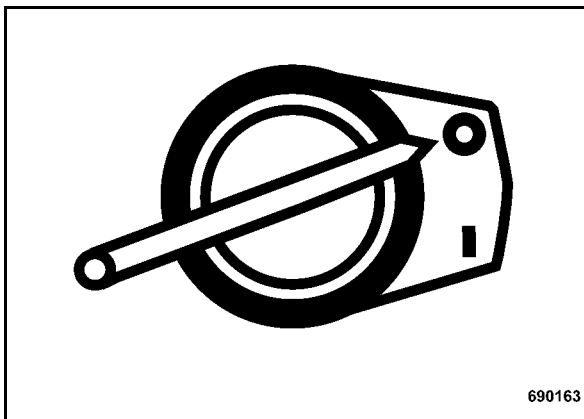

Fig. 29
- Turn the ignition switch (Fig. 29) to position "0".